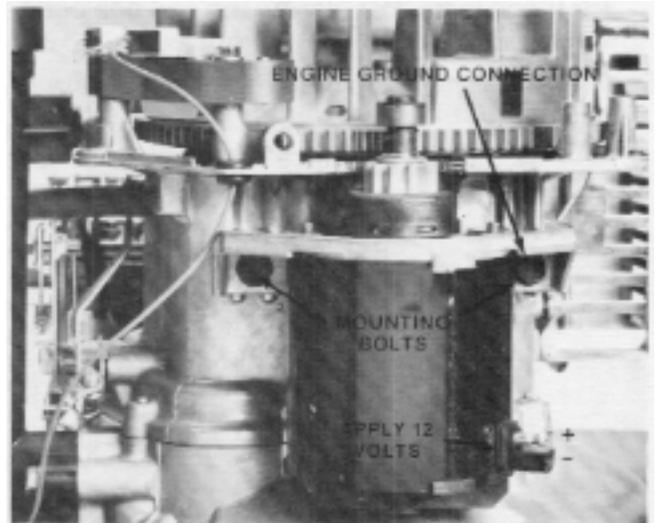

Figure 3-23
- Apply 12 volts direct to the starter motor terminals. See Fig. 3-23.